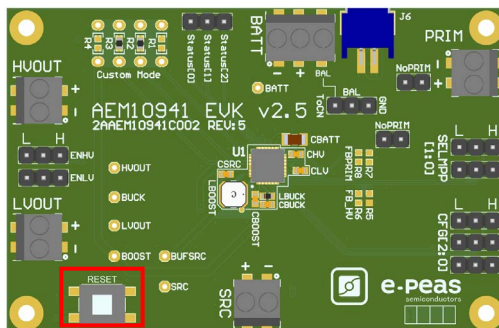

Figure 2: Board Reset
1. Reset the board - see “How to reset the AEM10941 evaluation board” on Figure 2.